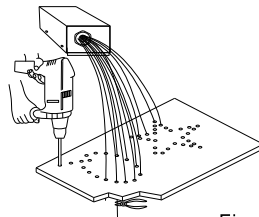

Fig. 3
5. The installation of the end part of the fiber optic(see Fig. 3)